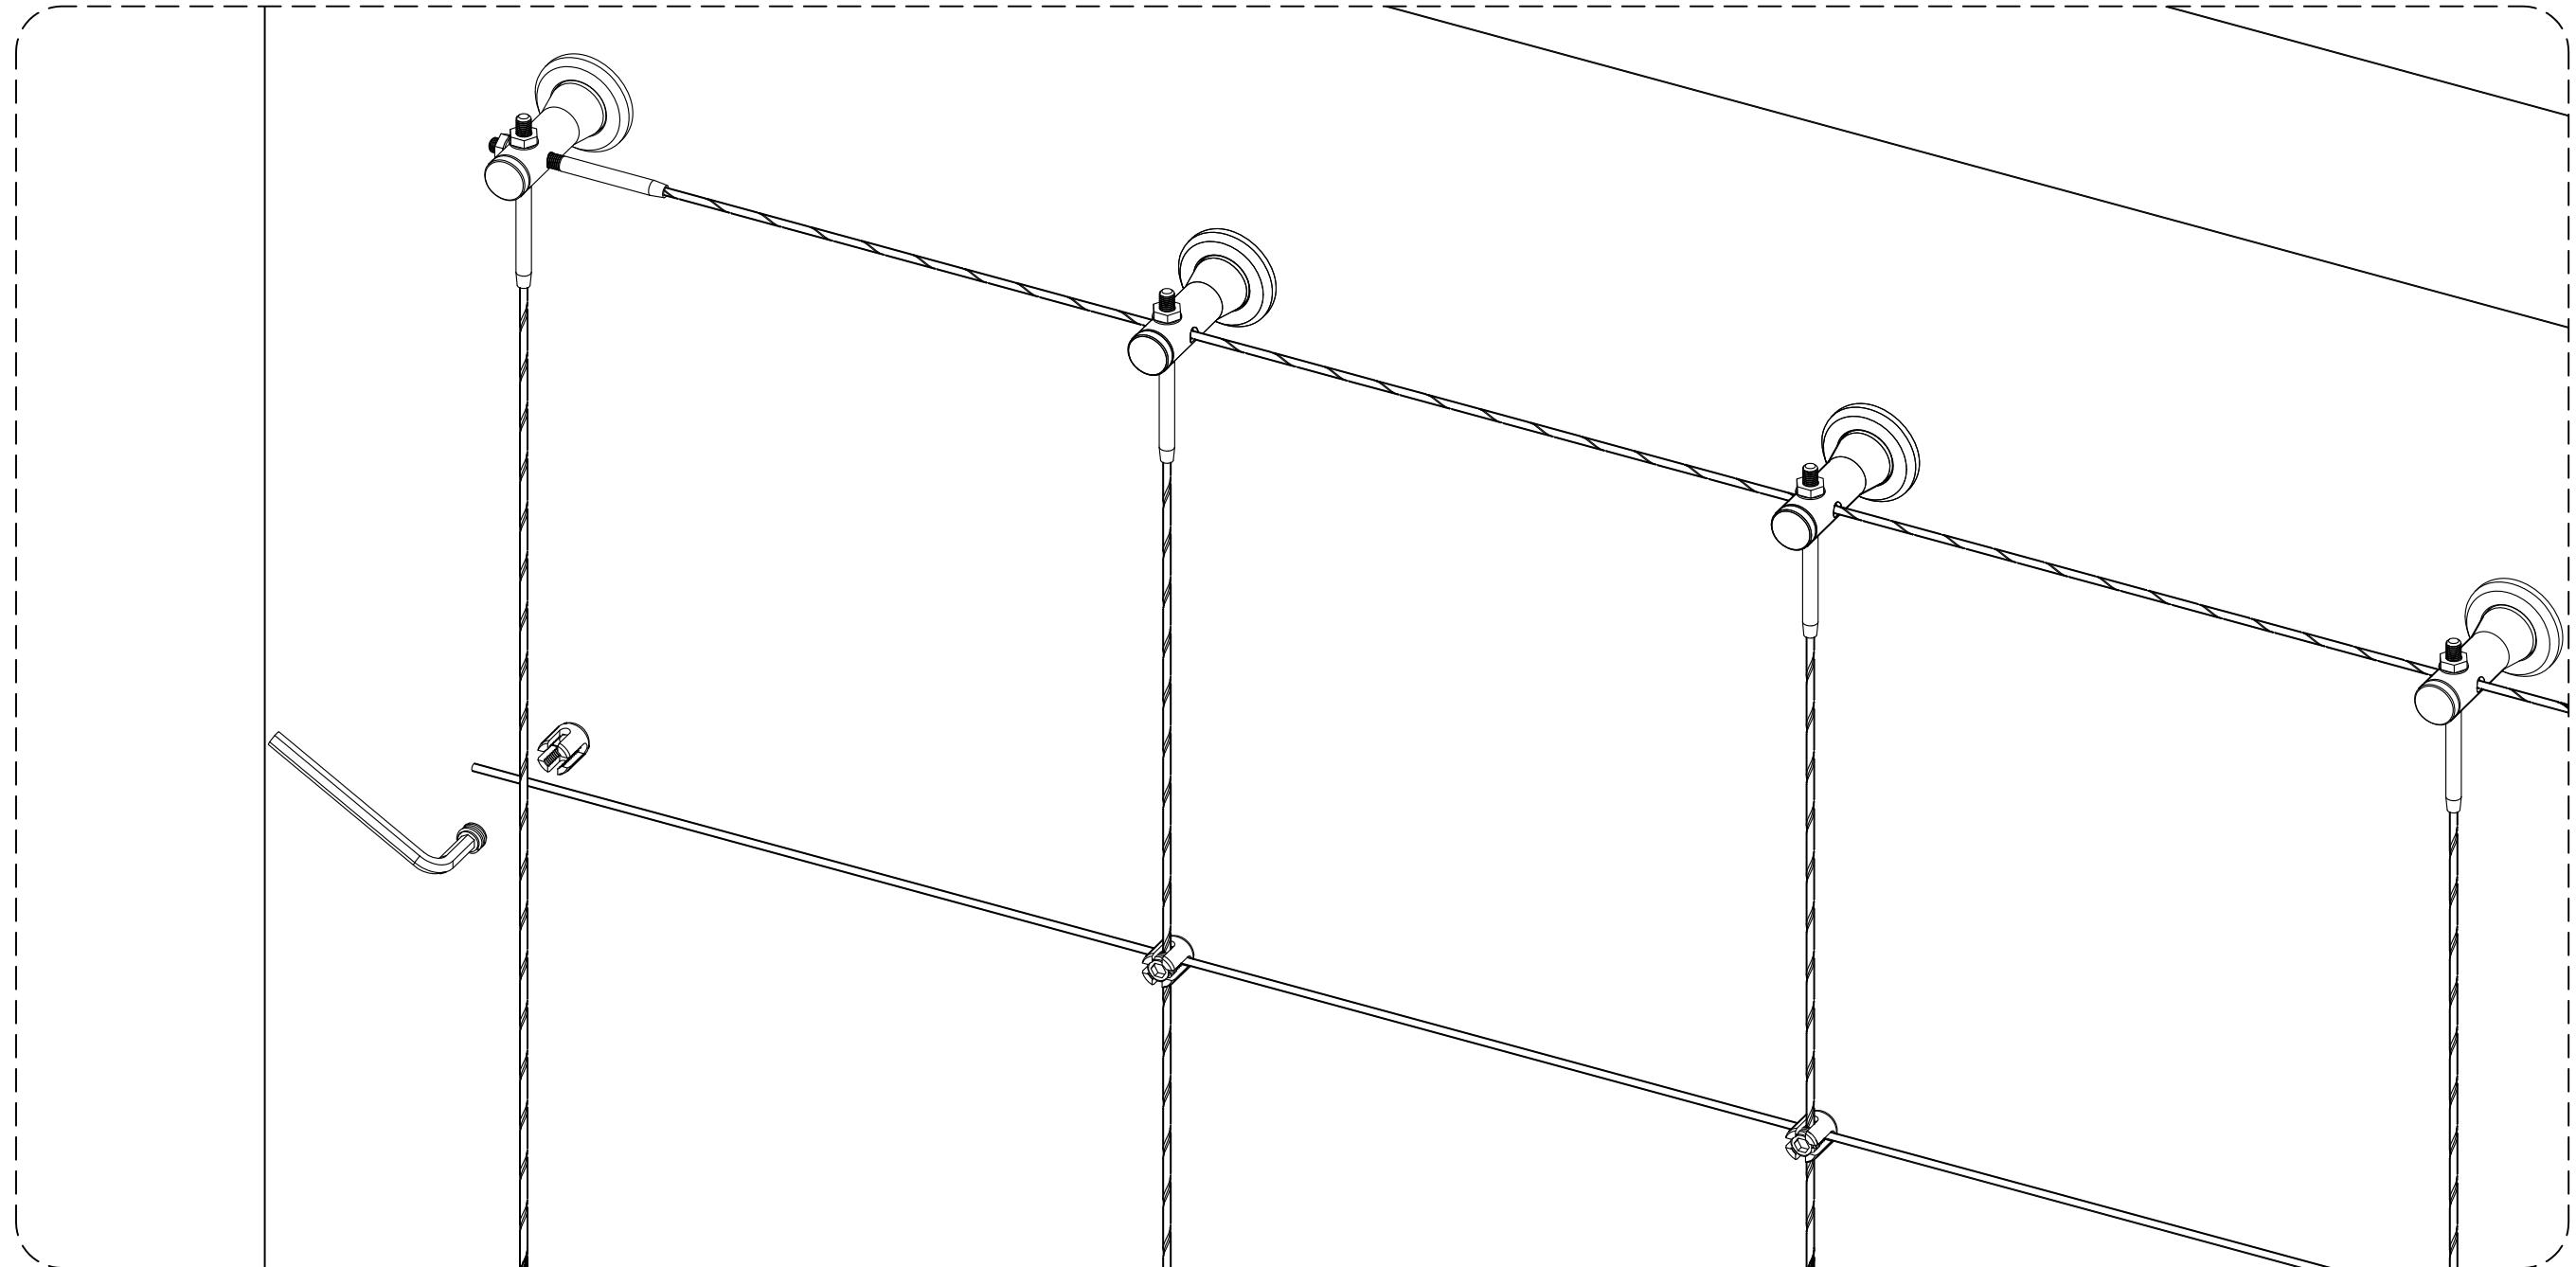

**FIG. 6.**
**NOW INSTALL THE HORIZONTAL CABLES TOP AND BOTTOM USING THE SUPPLIED 1/4" WASHER, AND A 1/4" JAM NUT ON THE END OF EACH SWAGE STUD APPLYING TENSION TO THE CABLE BY TIGHTENING THE JAM NUT. (FIG. 6) THEN, INSTALL THE VERTICAL CABLES USING A 1/4" WASHER, AND A 1/4" JAM NUT USING THE 1/4" JAM NUT TO TENSION THE CABLES. (FIG.7).**